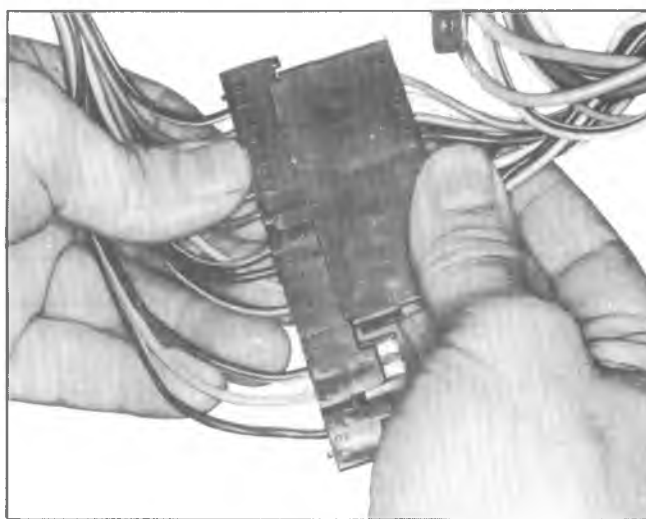

Fig. 3B4-10--Checking Harmonica Connector on Column
2. Check for secure connection at the chassis to switch connector. This is the harmonica connector on the column (Figure 3B4-10). Secure if loose. Check all individual wire terminals for proper seating in the connector bodies. Terminals should be locked in place.
If **all** lamps light when hazard warning is depressed, but flashing does not occur, replace hazard warning flasher. (On fuse block) (Figure 3B4-11).